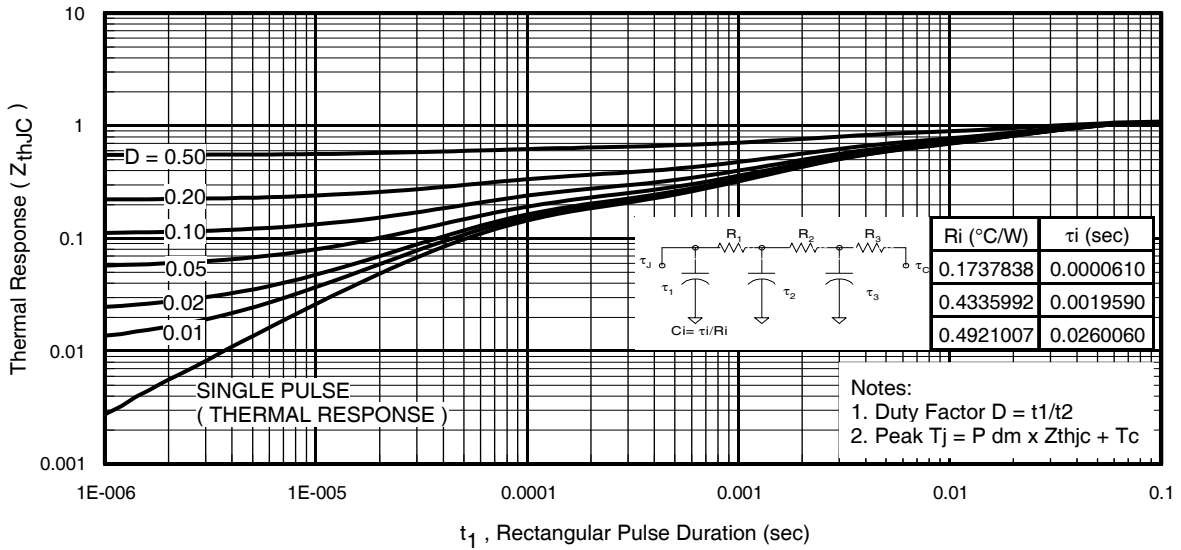

Fig 11. Maximum Effective Transient Thermal Impedance, Junction-to-Case
- ① Repetitive rating; pulse width limited by max. junction temperature. (See fig. 11)
- ② Starting $T_J = 25^\circ\text{C}$, $L = 0.88\text{mH}$